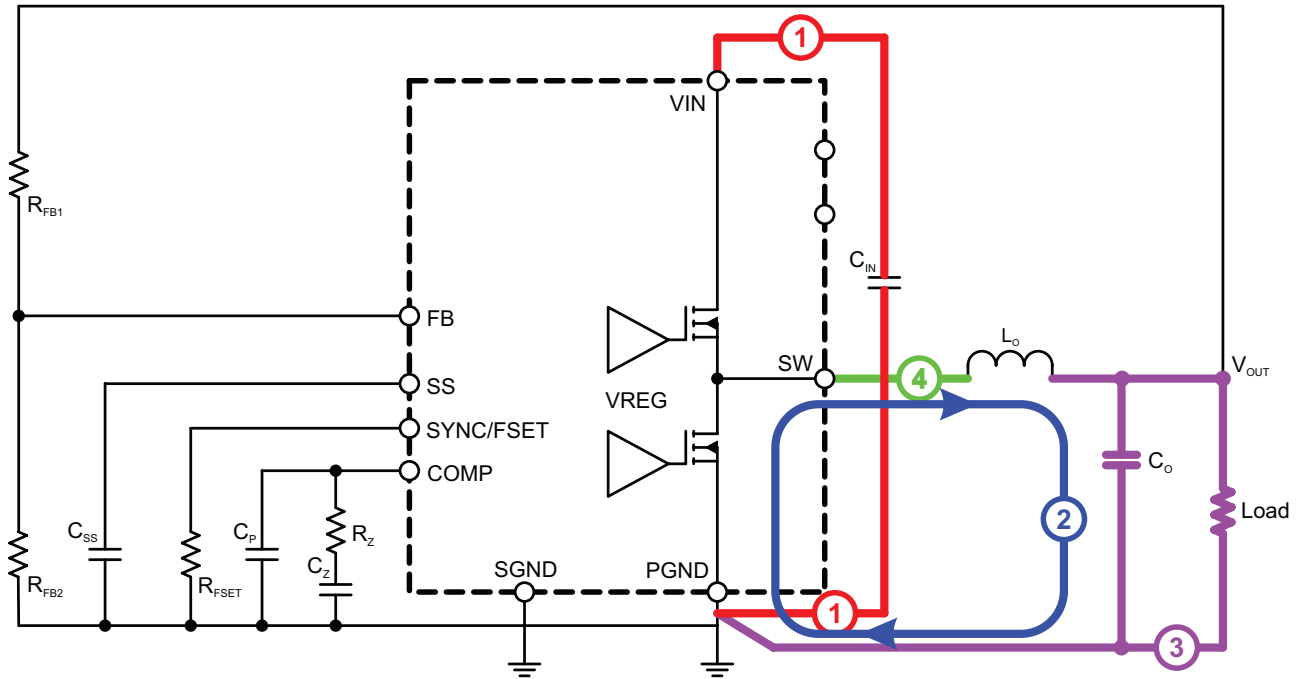
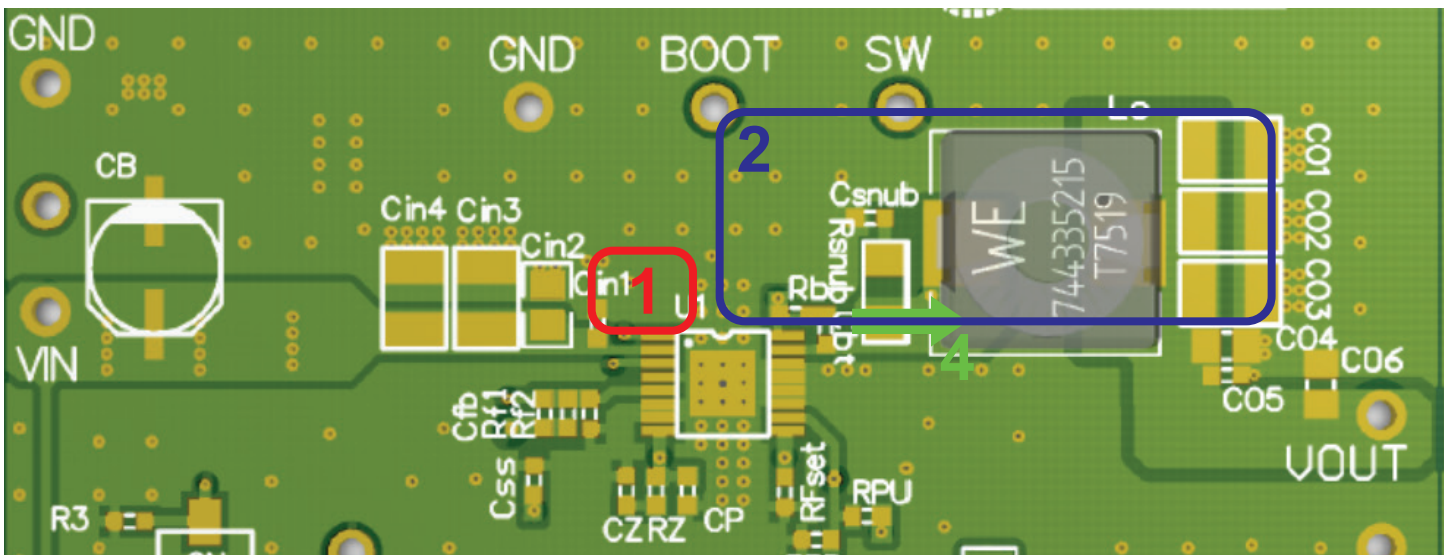

Figure 7: Typical Synchronous Buck Regulator
Figure 8: Example PCB Component Placement and Routing
A good PCB layout is critical for the A8654 to provide clean, stable output voltages. Follow these guidelines to ensure a good PCB layout. Figure 7 shows a typical buck converter schematic with the critical power paths/loops. Figure 8 shows an example PCB component placement and routing with the same critical power paths/loops from the schematic.
1. Place the ceramic input capacitors as close as possible to the VIN pin and GND pins to make the loop area minimal; and the traces of the input capacitors to VIN pin should be short and wide to minimize the inductance. This critical loop is shown as Trace 1 in Figure 7 and Figure 8. The larger input capacitor can be located further away from VIN pin. The input capacitors and A8654 IC should be on the same side of the board with traces on the same layer.
3. When the high-side MOSFET is off, free-wheeling current flows from ground, through the synchronous low-side MOSFET, into the load via the output inductor, and back to ground. This loop should be minimized and have relatively wide traces. This loop is shown as Trace 2 in Figure 7 and Figure 8.
4. Place the output capacitors relatively close to the output inductor (L_O) and the A8654. Ideally, the output capacitors, output inductor and the controller IC A8654 should be on the same layer. Connect the output inductor and the output capacitors with a fairly wide trace. The output capacitors must use a ground plane to make a very low-inductance connection to the GND. These critical connections are shown as Trace 3 in Figure 7.
5. Place the output inductor (L_O) as close as possible to the SW pin with short and wide traces. This critical trace is shown as Trace 4 in Figure 7 and Figure 8. The SW node voltage transitions from 0 V to V_{IN} and with a high dV/dt rate. This node is the root cause of many noise issues. It is suggested to minimize the SW copper area to minimize the coupling capacitance between SW node and other noise-sensitive nodes. However the SW node area cannot be too small in order to conduct high current. A ground copper area can be placed beneath the SW node to provide additional shielding. Also, keep low-level analog signals (like FB, COMP) away from the SW polygon.